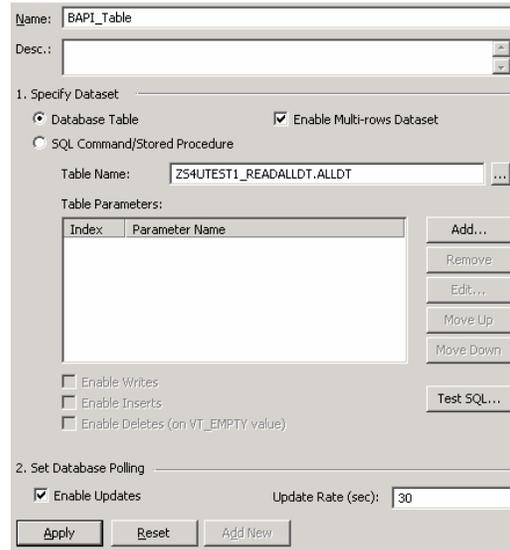

Figure 11: Configure BAPI Table Data Source
1. Right mouse click on the SAP database connection you've just created and select New -> DataSource. Name the connection "BAPI_Table". Select "Database Table" and search for the table from which you require information. Select "Enable Multi-row Dataset" and change the Update Rate. An update rate of 1 sec could have a negative impact on the performance of the SAP system. Thirty (30) seconds would be a better Update Rate. Click on "Apply" and your table data source is configured. See Figure 11.